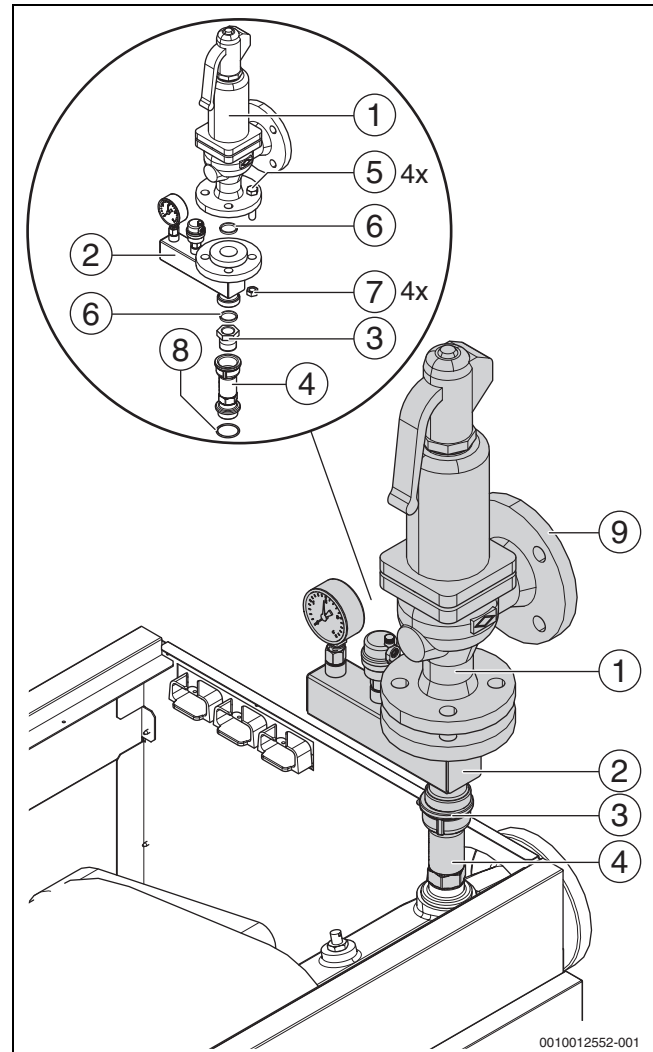

Fig. 19 Safety set, 4 to 6 bar (illustration shows right-hand boiler setup)
- Seal the pressure relief valve at the threaded connection of the heating flow using suitable sealants or supplied gaskets (→ Fig. 19).